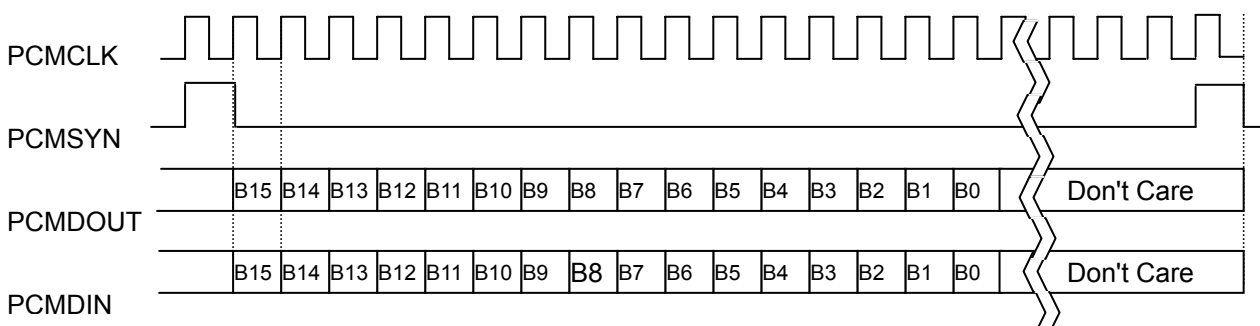

Figure 12-2 Short Frame SYN Timing (Shown with 16bit Sample)
**NOTE:** Figure 12-2 shows a PCM transfer with the MSB configured one shift clock after the PCMSYN.